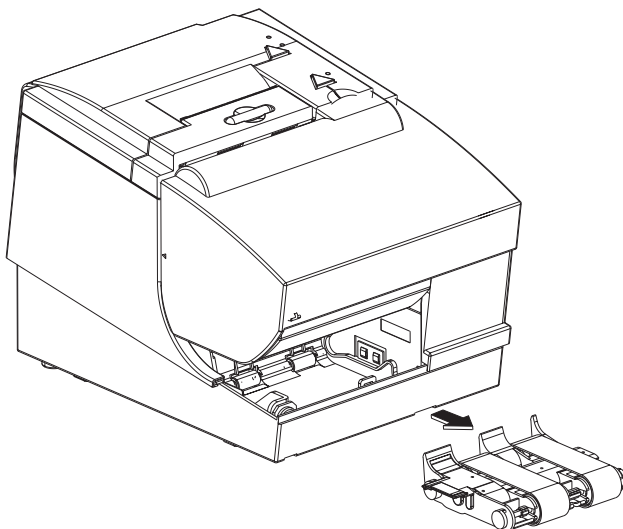

Figure 23. Removing the check flipper cartridge
4. If you cannot remove the document, lift up the tab on the left side of the check flipper cartridge (with a blue label) and remove the check flipper cartridge from the printer. (See Figure 23.)